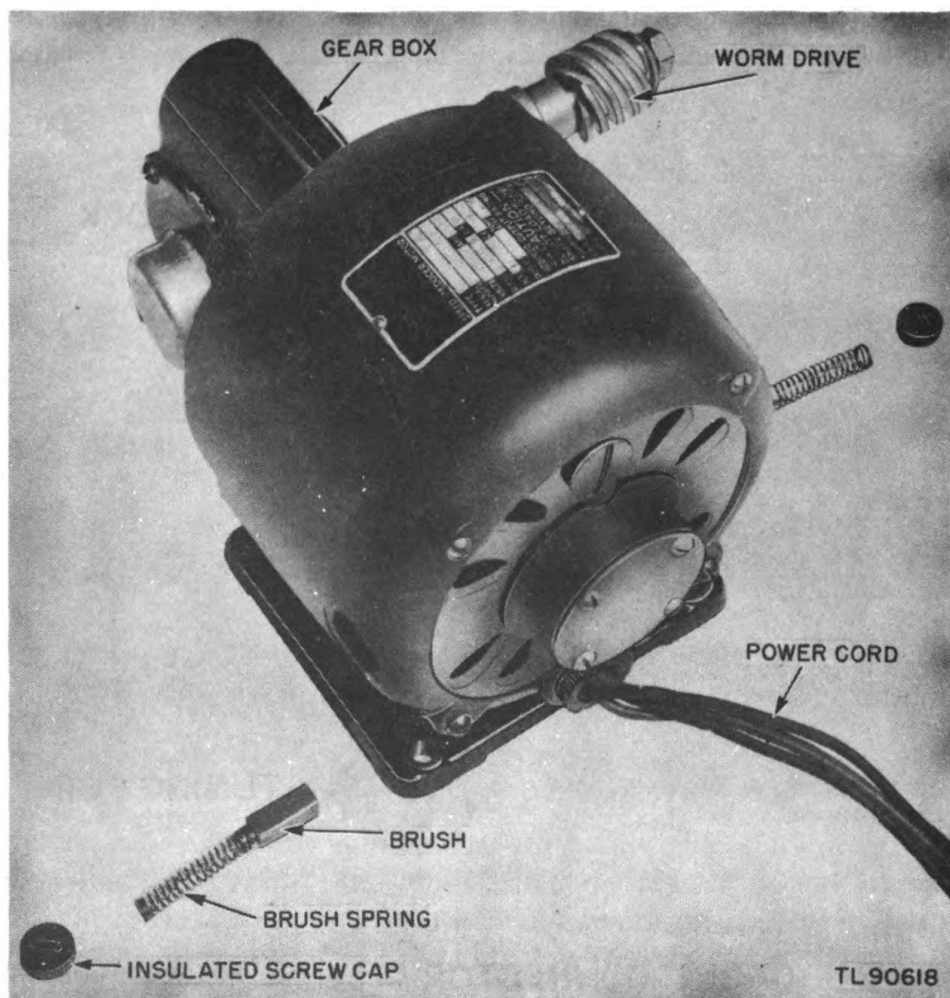

Figure 15. Motor.
**15. MOTOR.** A d-c, 12-volt,  $\frac{1}{12}$ -horsepower motor, shunt wound, with a built-on reducer (fig. 15), is coupled to a worm drive which engages a 7-inch worm gear to rotate the antenna array and the automatic code keyer at  $2\frac{1}{2}$  rpm. The motor input to the reducer is 1,725 rpm, and the motor output to worm gear is 43 rpm.